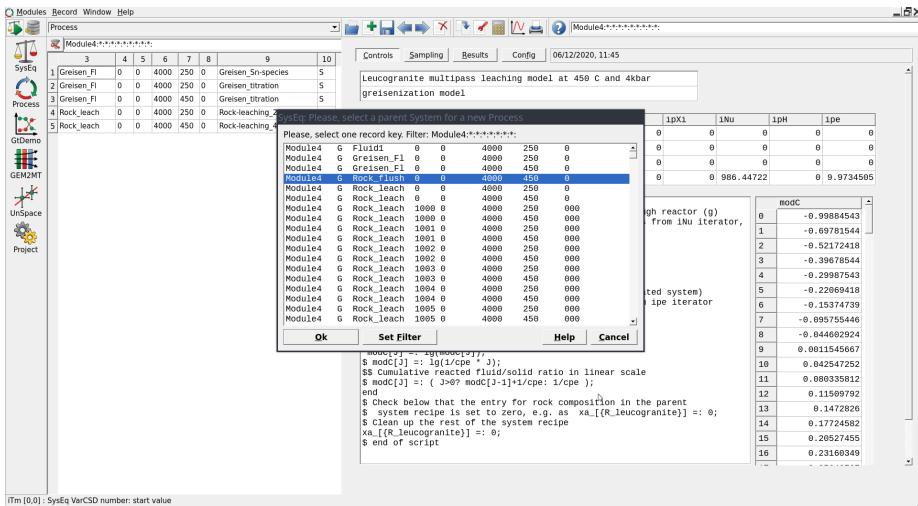

Figure 4.15: Select the parent record Rock_flush to create a new Process simulation by cloning on of the previously created Rock_leaching records.
- Switch to **Process** simulation and clone one of the "Rock-leaching" models by electing your parent record "Rock\flush" created previously at 450 °C and 4 kbar (Fig. 4.15).